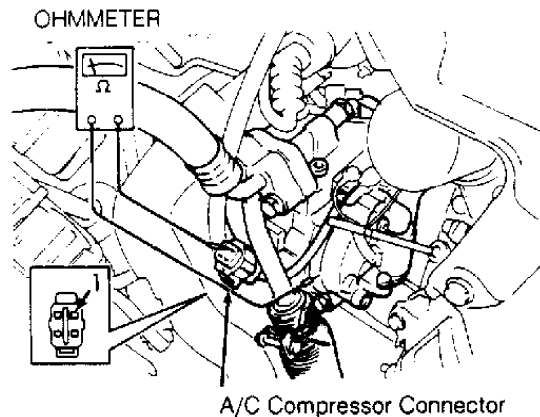

Fig. 7: Identifying A/C Compressor Connector Terminals
1) Inspect pressure plate and rotor for oil contamination. Check clutch bearing for noisy operation and grease leakage. Using an ohmmeter, measure resistance of stator coil between compressor connector terminal No. 1 and ground. See Fig. 7.